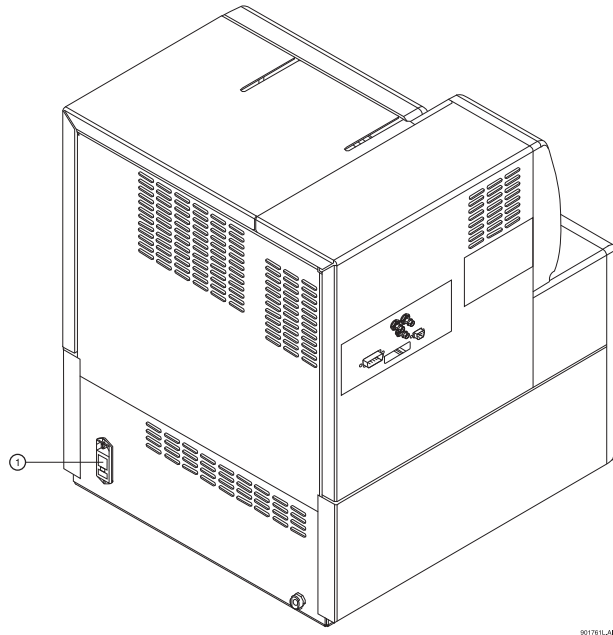

Figure 4.46 Replacing Fuses
2. Using the flathead screwdriver, remove the fuse block. Refer to Figure 4.46 for the location of the fuse block.